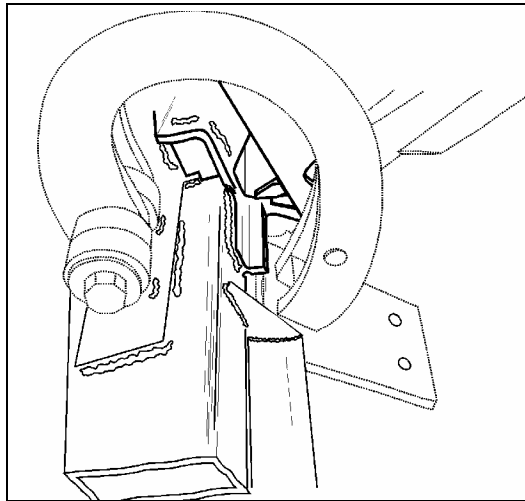

FIGURE 3
4. Position and weld (use 308L rod) mechanism at location shown in Figures 3 and 4.